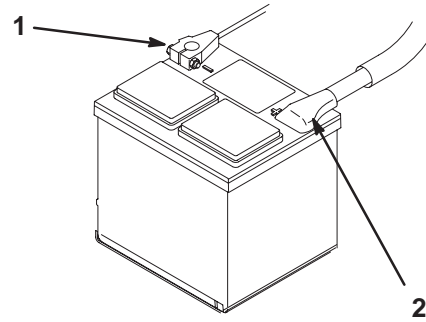

Figure 15
8. First, install the positive cable (red) to the positive (+) terminal and then the negative cable (black) to the negative (–) terminal of the battery (Fig. 15). Slide the rubber boot over the positive terminal to prevent a possible short from occurring.